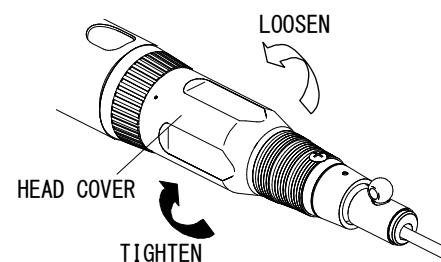

Fig.3
- 1) Remove the head housing by turning counterclockwise. (see fig.3)